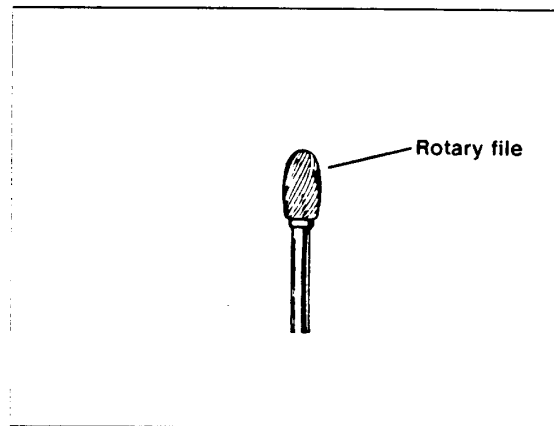
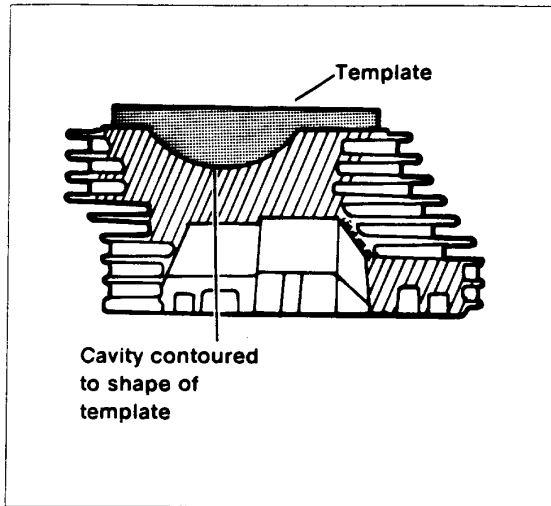

Figure 2. Aluminum Cutting Tool
Figure 3. Shaping Combustion Chamber
7. See Figure 2. Install an oval shaped aluminum cutting, rotary file into the chuck of an air or electric die grinder. See figure 3. Enlarge the combustion chamber by removing the material within the scribed circle to a depth and contour that matches the perimeter of the template furnished in the kit. Do not grind up to the line. Leave a small amount of material (approximately $1/16$ ") around the inside perimeter of the line. The valves can be removed when checking the cavity with the template. Once the cavity is nearly to shape, finish sand the surface smooth with an 80 or 60 grit sanding cartridge. The cavity must be contoured to a smooth radius without steps or gouges.